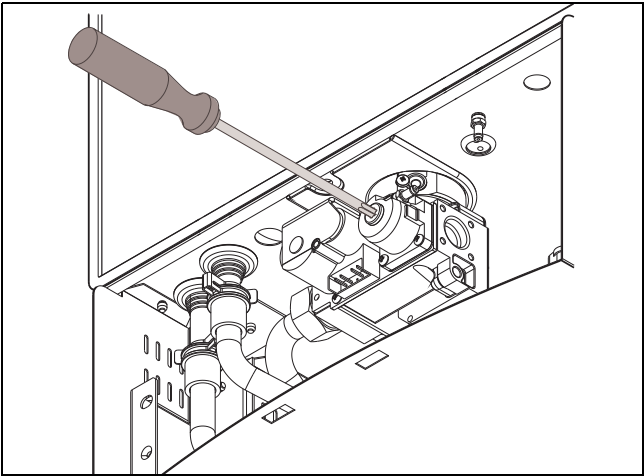

Fig. 74 Adjusting P2 CO2 level
- Remove yellow painted #40 Torx cover from the front of the gas valve. (Fig. 74) A plastic #40 Torx screw will be revealed.